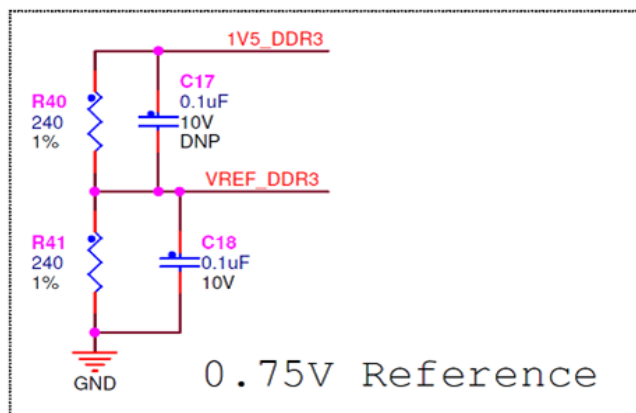

Figure 11. DDR3 0.75V reference supply
- A simple resistor divider is good enough to generate the 0.75V DDR3 reference (see Figure 11).